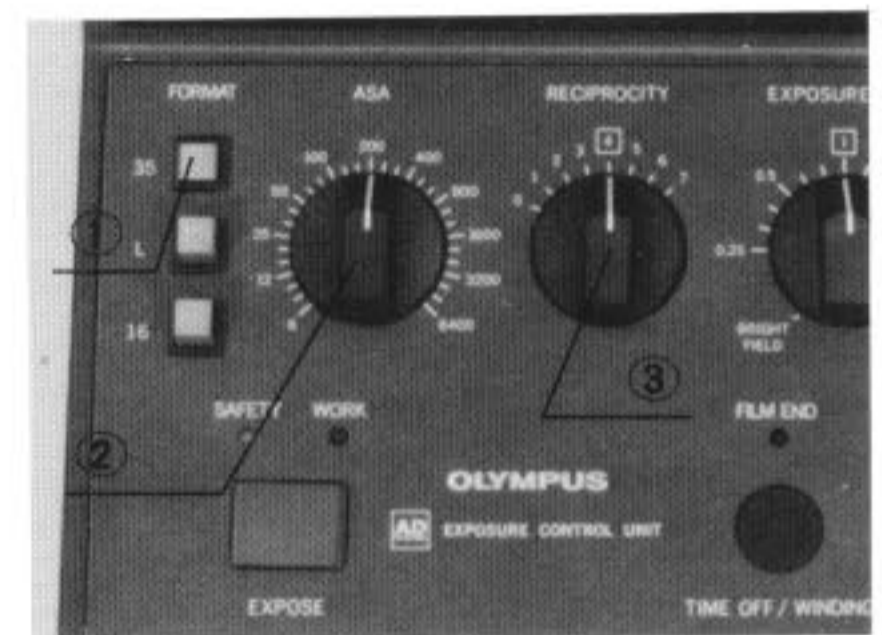

Fig. 20
- 2) Press the "35" FORMAT selector switch ①. (Fig. 20)
- 3) Set the ASA dial to the speed of the film in use. (Fig. 20)
(In Fig. 20 the dial is set for an ASA 200.)
- 4) Adjust the RECIPROCITY dial ③ according to the characteristics of the film. (Fig. 20)